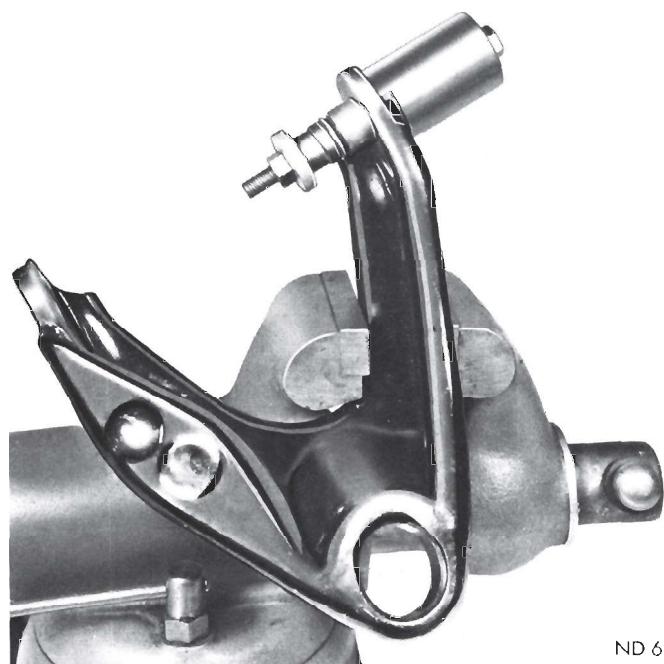

Fig. 26—Removing Upper Control Arm Bushing
(8) Assemble Tool C-3710A (Tool C-3962 Fury) over bushing and press bushing out of arm (from inside out) (Fig. 26). To remove upper control arm rear bushing support sleeve (used on Valiant models with 10 inch front brakes and Satellite police and taxi application) assemble Tool C-3710A using adaptor SP-3826 in place of adaptor SP-3088, over bushing and press bushing out of arm (Fig. 26).